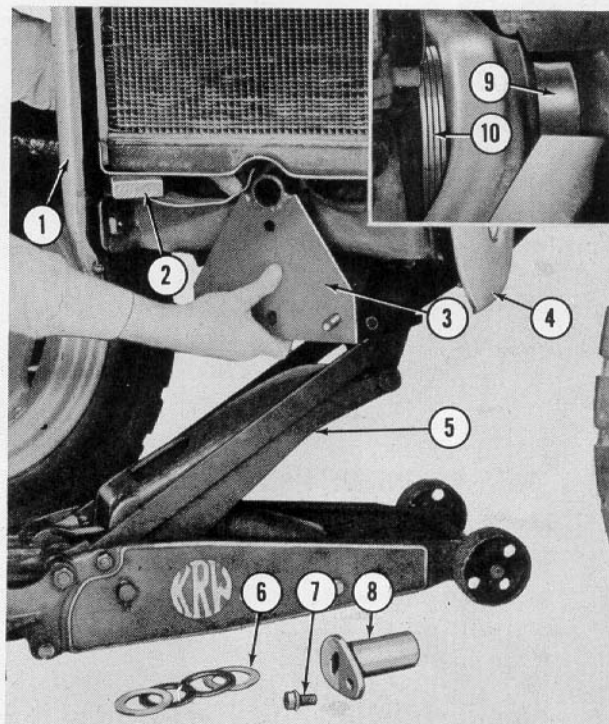

Figure 4
3. Remove the tractor front axle support pin (8), Figure 4, and install the loader front suspension plate (3) as shown in Figure 4. Be sure the wide spacer and the washers are in place on the pin of the suspension plate as they were on the axle support pin. See (9) and (10) insert, Figure 4. To make